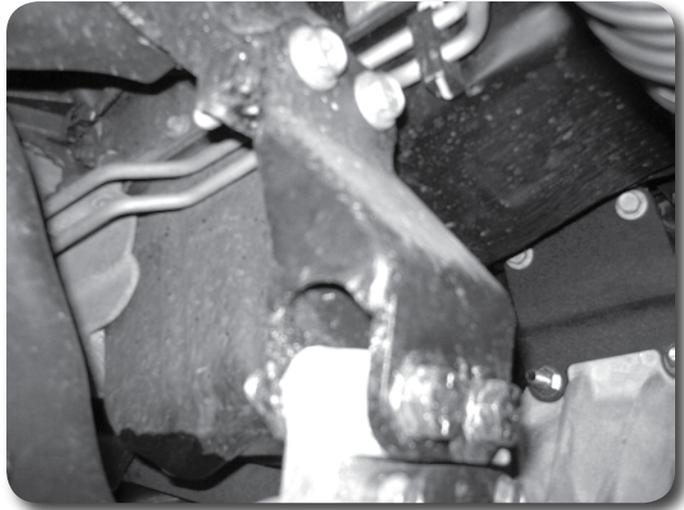

Figure. 13
32. Install the provided passenger's side differential drop bracket to the original frame mount with $1/2''$ hardware '08 models will use factory hardware. Leave hardware loose. **Figure. 13**